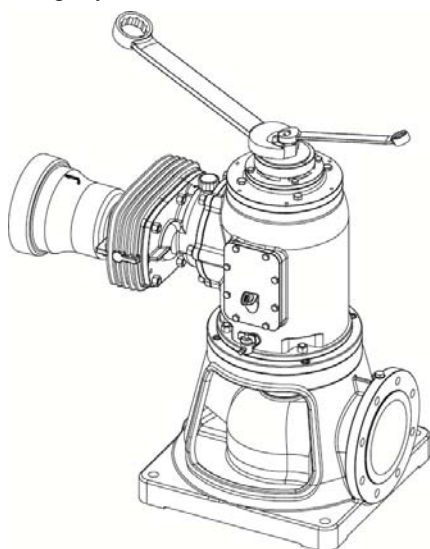

Figure 12
- Insert one flat spanner into the flat slots on the transmission shaft **O** and another flat spanner **P** on the regulating nut (fig. 12).